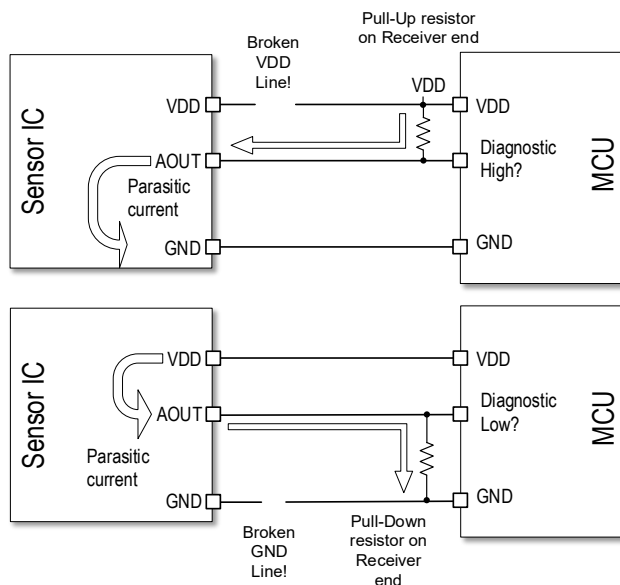

Figure 35. Parasitic Currents on Analog Outputs with Broken VDD or Broken GND Lines
Most broken supply, broken GND, or analog output signal connection errors can be detected by monitoring the DC voltage levels at the analog output pin AOUT, see the uncritical error cases on Figure 35. If a diagnostic error or broken signal wire occurs, the DC voltage level at the affected pin is pulled into the diagnostic range (diagnostic high: $V_{OUT} > 95\% V_{DD}$ or diagnostic low: $V_{OUT} < 5\% V_{DD}$) through the external pull-up/pull-down resistors.
- a broken VDD supply wire with external pull-up resistors at the receiving end, see Figure 35.
- a broken GND wire with external pull-down resistors at the receiving end, see Figure 35.